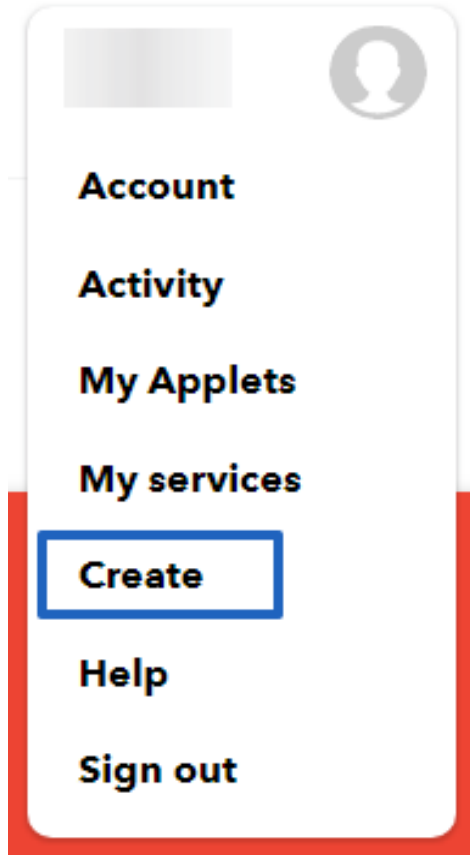

Figure 13.3 – Profile menu
2. In the menu that appears, choose the My Services item (refer to *Figure 13.3*).